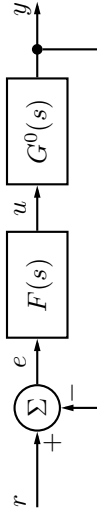

Figure 6.4a
6.4 Consider the control system in Figure 6.4a. The true system, denoted  $G^0(s)$ , is modeled as